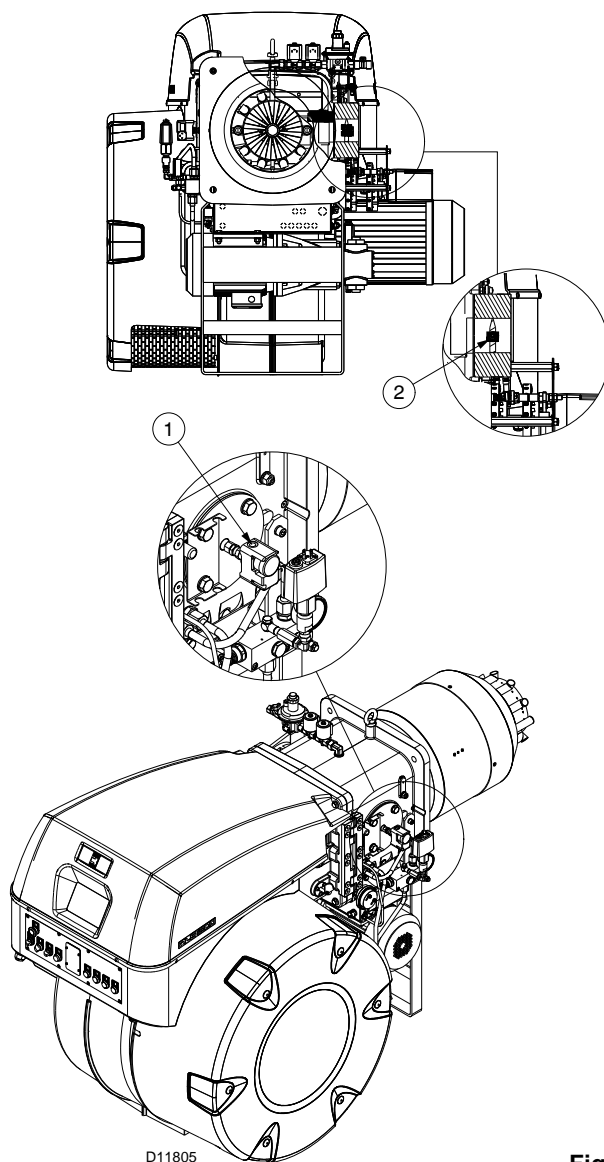

Fig. 26
Gas pressure measured at test point 1)(Fig. 26), with:
Pressure loss at gas butterfly valve 2)(Fig. 26) with maximum opening: 90°.
- subtract the combustion chamber pressure from the gas pressure measured at test point 1)(Fig. 26).
Gas pressure at test point 1)(Fig. 26) = 44.2 mbar
To calculate the required gas pressure at test point 1)(Fig. 26), set the maximum modulating output required from the burner operation:
- read, on the right (column 1), the pressure at the test point 1) (Fig. 26).
pressure required at test point 1)(Fig. 26).